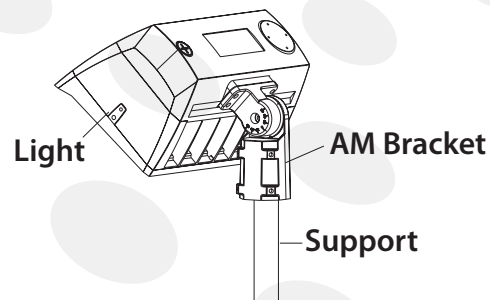

Figure 6
Step 2: Loosen the fixing bolts and adjusting bolts, align the fixture to required angle. Tighten adjusting bolt and fixing bolts after the angle is confirmed. (Figure 6)